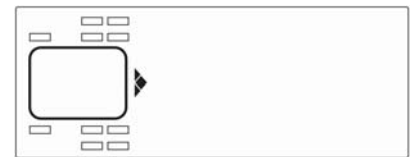

Figure 5-2
- 3) Press the front or rear button to select the front, back or both sections for the system to monitor. The section that is not selected will drop from the screen (see **Figure 5-2** and **5-3**).